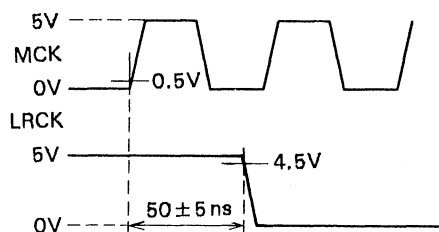

Fig. 5-2
3. First turn VR1107 all the way left (counter-clockwise). Turn VR1107 slowly to the right until the time interval between the 0.5V point on the rising TP (MCK) signal and the 4.5V point on the falling TP (LRCK) signal becomes  $50 \pm 5$  nsec for the first time (see figure 5-2).